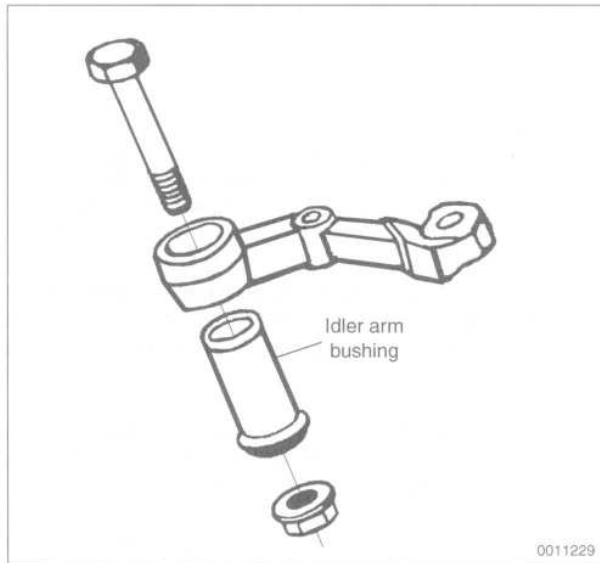

Fig. 7. Idler arm and bushing.
The idler arm is bolted to the subframe crossmember through a bushing. The bushing is subject to wear and is available as a replacement part. See Fig. 7.
- If replacing the idler arm bushing, press it out using a press (use BMW special tool nos. 32 1 050 and 32 2 032 or equivalent press fittings). Be sure to press the new bushing in from the direction shown in Fig. 7.